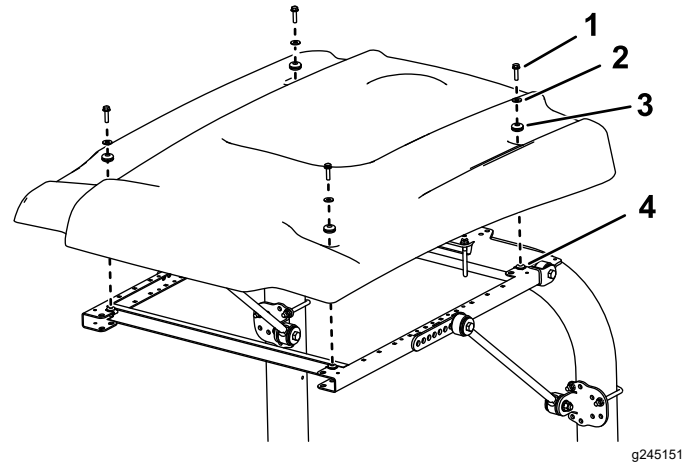

Figure 6
10. While aligning the mounting holes, position the sunshade onto the frame as shown in Figure 6.
11. Loosely mount each corner of the sunshade to the frame with a flange-head bolt (5/16 x 1 inch), a small washer, and a grommet (Figure 6).